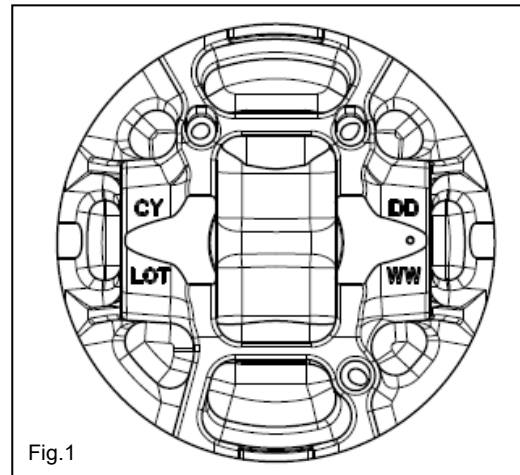

Fig.1
- 2.1 Confirm the O.D. of the piston skirt on the back of the piston. The diameter is between 87.950 to 87.960 mm. The last 2 numbers of the 3 digits after the decimal point are shown on the back of the piston. (e.g.: If the O.D. is 87.955 mm, "55" is shown on the back of the piston.) (See the figure1)